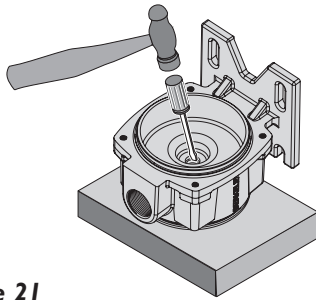

Figure 21
4. Turn the bracket motor side up on the bench and use a screwdriver to carefully tap the stationary seal half out of the bracket (see Figure 21).